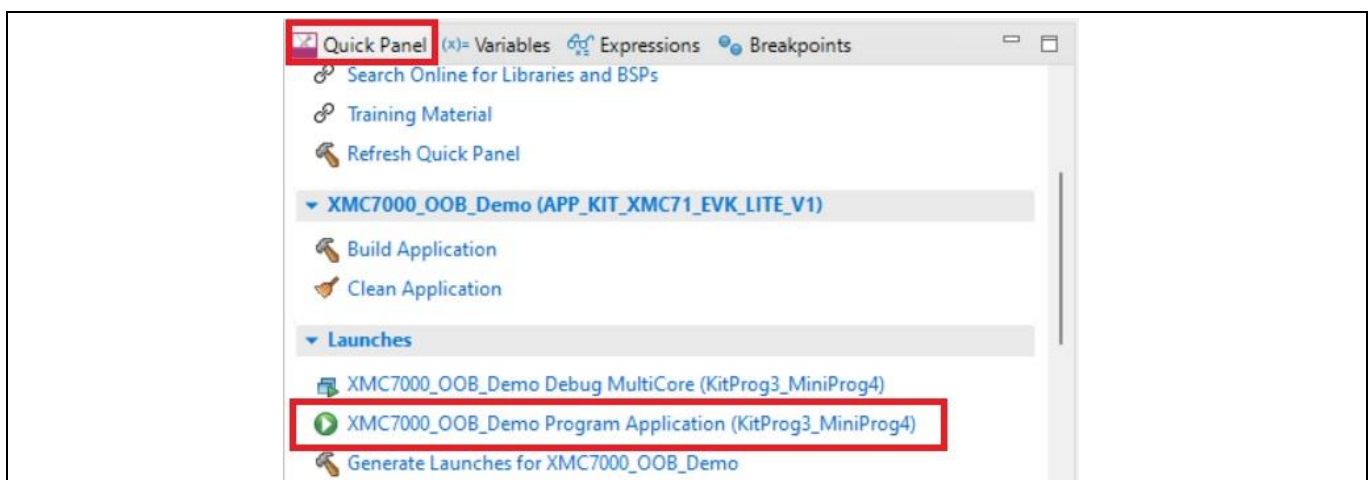

Figure 12 Programming in the ModusToolbox™ software
- To build and program a XMC7100D application in the Project Explorer, select **<App_Name>** project. In the Quick Panel, scroll to the Launches section and click the **<App_Name> Program (KitProg3_MiniProg4)** configuration, see Figure 12.